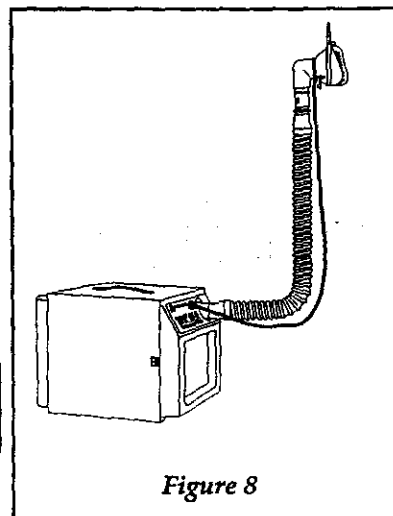

Figure 8
- Step 2** Attach the patient circuit to the BiPAP S/T-D 30 unit and connect the proximal pressure line. See Figure 8.